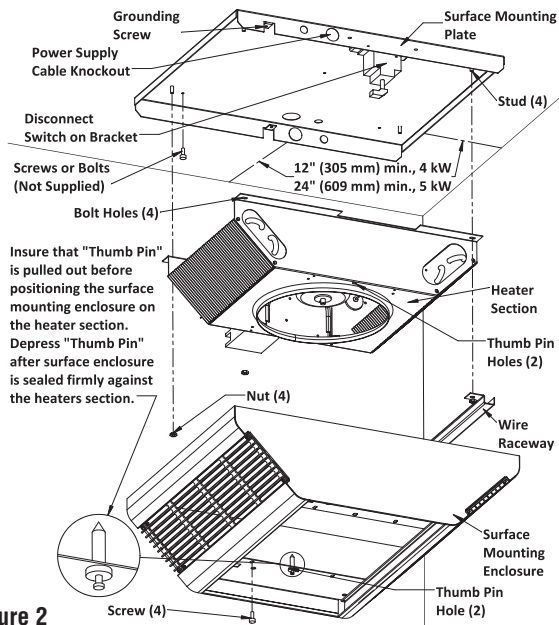

Figure 2
6. Position the surface mounting plate against the ceiling and secure with bolts or screws (Figure 2). See Warning No. 9. Connect the ground wire to the green ground screw on the surface mounting plate.
10. Position the heater section over the studs on the surface mounting plate (Figure 2).
11. Push the heater section onto the studs and securely tighten two nuts (supplied) on the studs to secure the half of the heater section opposite the sleeved wires to the surface mounting plate. Push the raceway onto the studs ensuring that the sleeved wires are in the raceway and securely tighten two nuts (supplied) on the studs to secure the raceway and the other half of the heater to the surface mounting plate (Figure 2).
FAILURE TO INSTALL THE FOUR MOUNTING NUTS COULD RESULT IN THE HEATER FALLING. (SEE FIGURE 2)
NOTE: Insure that the "thumb pin" in each end of the discharge grille opening is pulled outward to allow the body of the thumb pins to fit into the holes in the heater section. (Figure 2).
15. Install and securely tighten four screws (supplied) to secure the surface wrapper to the heater section (Figure 2).
FAILURE TO INSTALL THE FOUR SCREWS, COULD ALLOW THE SURFACE WRAPPER TO FALL. (SEE FIG. 2)
FAILURE TO INSTALL THE FOUR MOUNTING NUTS COULD RESULT IN THE HEATER FALLING. (SEE FIG. 2)
FAILURE TO INSTALL THE FOUR SCREWS, COULD ALLOW THE SURFACE WRAPPER TO FALL. (SEE FIGURE 2)